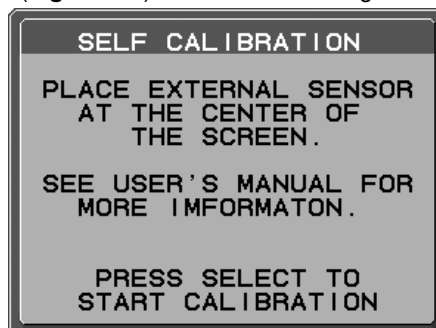

Figure S.2
3. The procedure will ask for the external near range color analyzer to be placed on the center of the display panel (**Figure S.2**). Place the external near range color analyzer in the center of the display panel, then press SELECT.